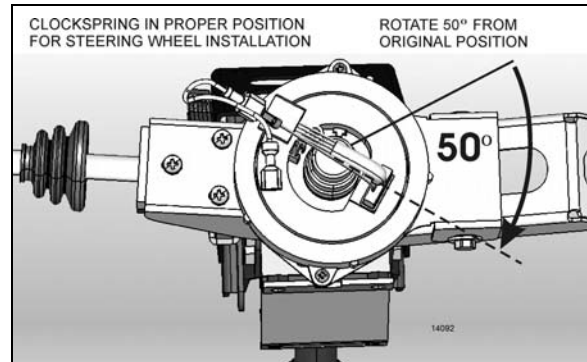

FIGURE 15: PROPER CLOCKSPRING POSITION
5. Break the paper seal and rotate the center part of the clockspring about 50° clockwise (Figure 15). This step is necessary for the installation of the steering wheel.